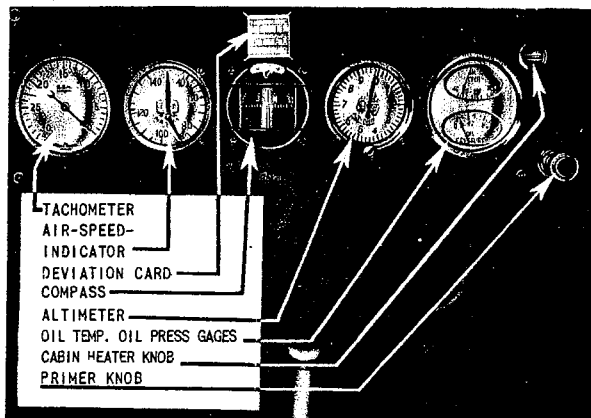

Figure 9—Instrument Panel on the Model L-4B
(2) On the model L-4B the instrument panel is identical to above panel with the exception that it does not contain a battery condition indicator. (See figure 9.)